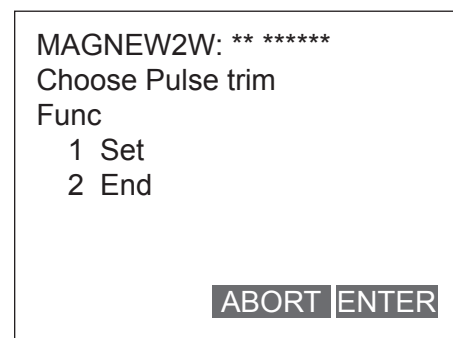

Fig. 7-56.
2. Fig. 7-56. will then appears. Connect the calibrator, and then press F4 (OK).